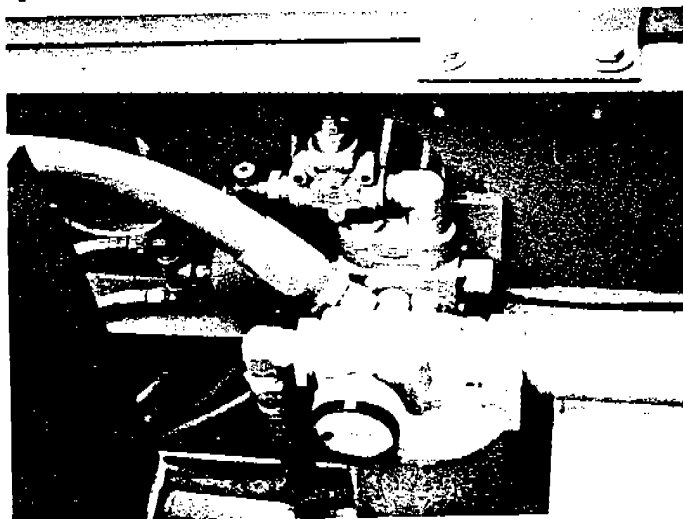
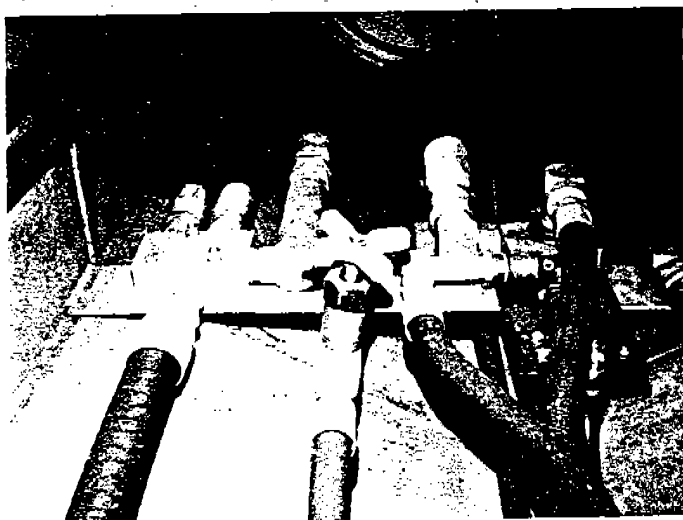

Figure 5
Figure 9
2. *Freewheel diverter valve not shifting.* Possible causes—valve sticking; air actuating cylinder not working, or hole in air line. (Fig. 5)
1. *Freewheel diverter valve sticking.* Repair or replace this valve. See Fig. 5.
2. *Air actuating cylinder not working.* Repair or replace. See Fig. 5.
1. *Diverter valve not shifting.* Repair or replace. See Fig. 5.
2. See item 1, 2, 3, section F.
3. *Brake valve out of adjustment.* Screw brake valve clear closed then turn out four or five complete turns. Fig. 9.